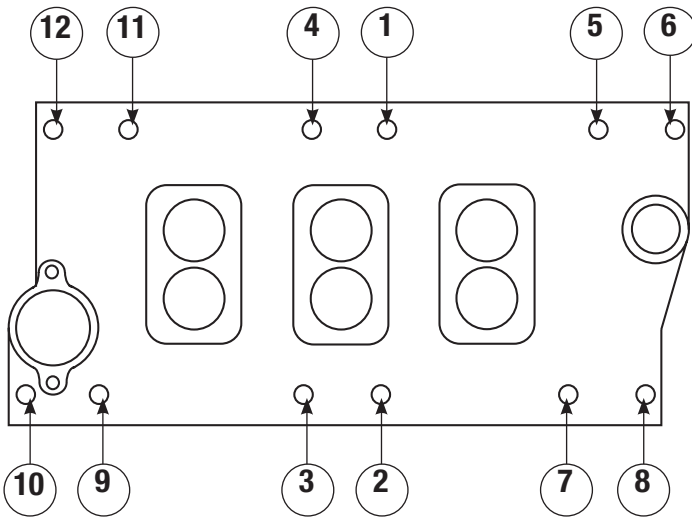

Figure 1 - 262-400 c.i.d. Small Block Chevy Torque Sequence
- 5) Install the intake manifold and hold-down bolts. Torque all of the manifold bolts in two steps by the sequence shown in Figure 1 to 25 ft/lbs.